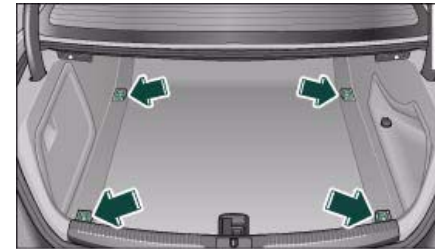

Fig. 80 Location of fastening rings in luggage compartment
- Use the fastening rings to secure the load ⇒ fig. 80 -arrows-.